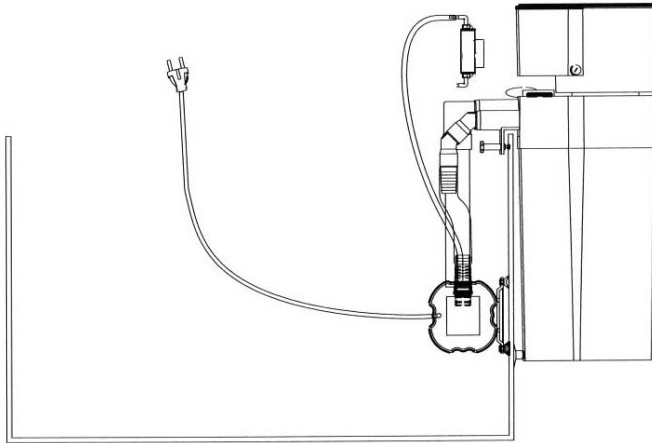

Fig. 3: Turboflotor Blue 3000 in "Hang on" operation
1. As an external skimmer, directly mounted on the aquarium: "Hang on", (Fig. 3).
Set up as an external skimmer on the aquarium - Hang on (Fig. 3):
Now, the skimmer can be aligned with the aquarium. The two screws at the bottom of the skimmer are adjusted in such a way that the skimmer is hanging safely on the aquarium. It is advantageous if the skimmer is not 100% upright but leaning slightly (2°) to the aquarium (Fig. 3). The skimmer is then not only hanging more safely, but also back-flow of water from the outflow box over the aquarium frame is prevented. Both adjusting screws at the bottom are supplied with silicone suction cups for increased safety. The skimmer is now ready for use and can be started.